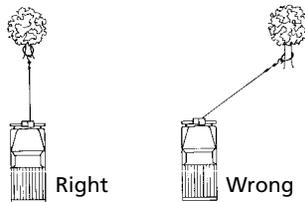

Figure 7
13. AVOID CONTINUOUS PULLS FROM EXTREME ANGLES as this will cause the wire rope to pile up at one end of the drum (Figure 7). This can jam the wire rope in the winch, causing damage to the rope or the winch.